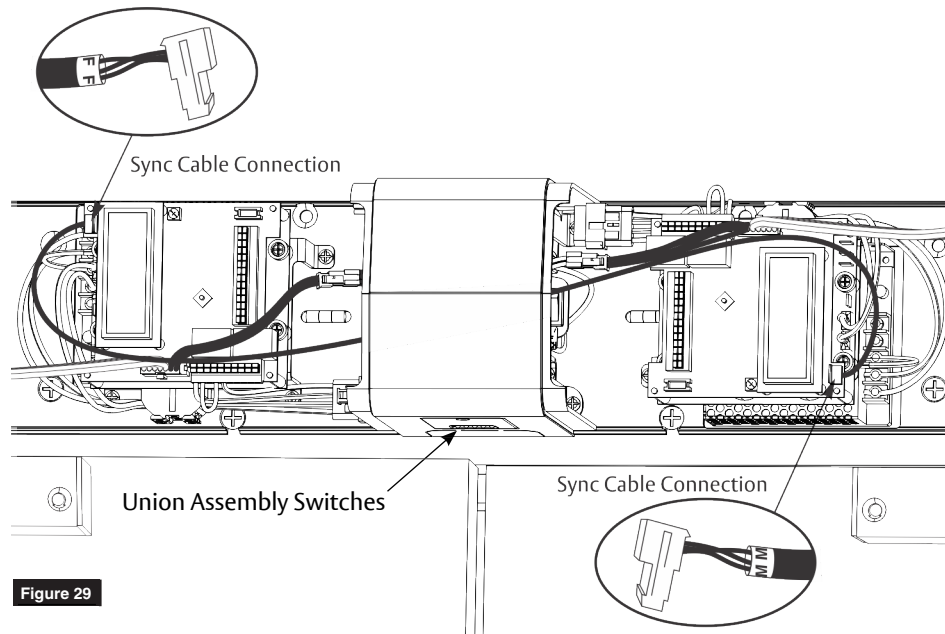

Figure 29
2. Run Sync Cable between operators. (Figure 29)
5. Place both selector mode switches of union assembly in 'ON' position for activation by push plate, RF button, or other activation devices. Place switches in 'H/O' for continuous hold open. (Figure 29)